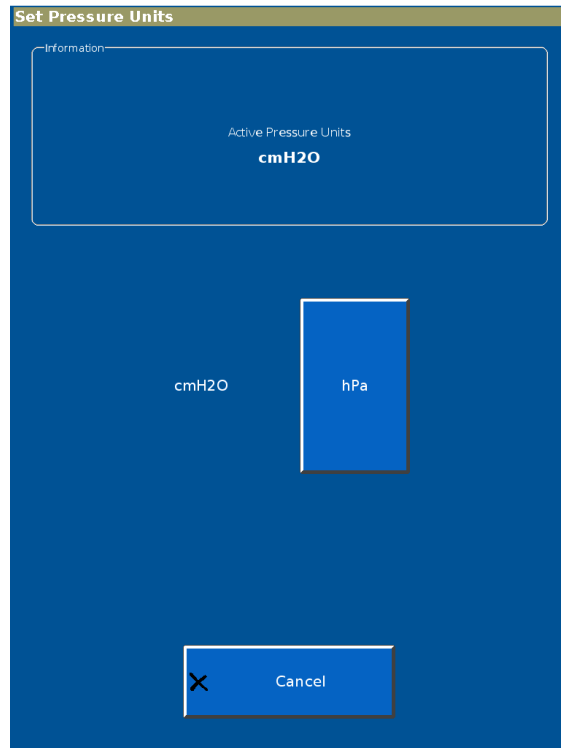

Figure E-6: Set Pressure Units screen
1. From the System Settings screen, select Pressure Units to display the Set Pressure Units screen (Figure E-6).